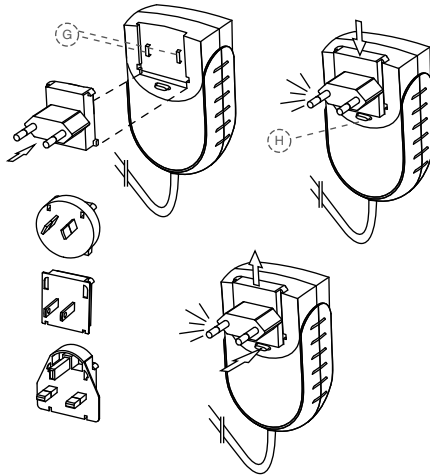

Fig. 4 Charger and plug adaptor
1. Choose the plug adaptor appropriate to your electricity supply (see Fig. 4).
2. Place the appropriate adaptor onto the two contacts (Fig. 4, G) on the charger and push it towards the lock button until it clicks into place. Push the lock button to change the plug adaptor.